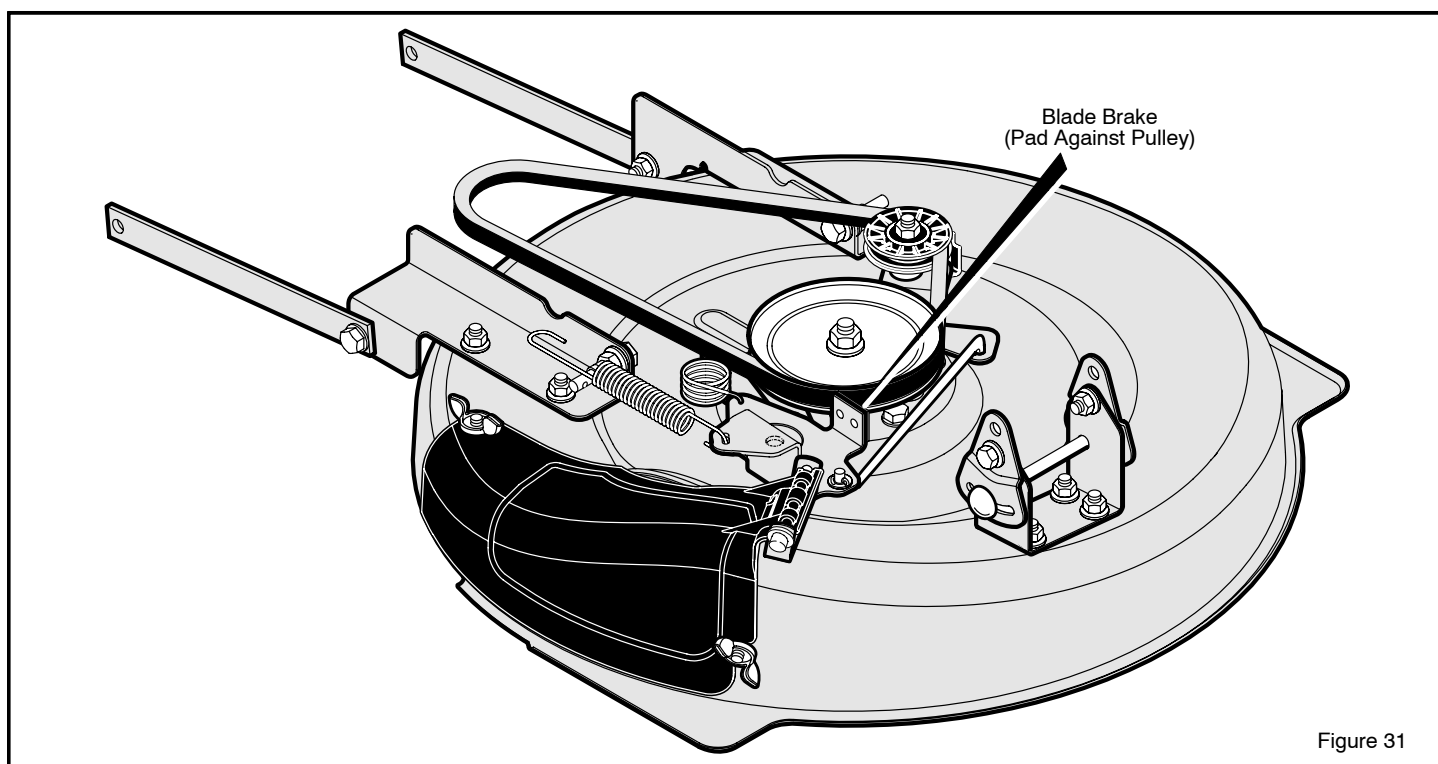

Figure 31
7. Check the operation of the **blade brake**. Rotate the pulley with your hand. Make sure the **brake pad** is pressed tightly against the pulley (Figure 31).